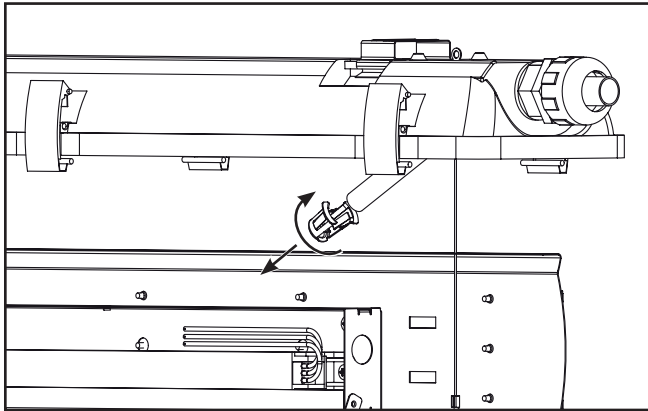

Figure 10.
11. Unscrew the clasp from flexible metal conduit and set aside. (Figure 10)